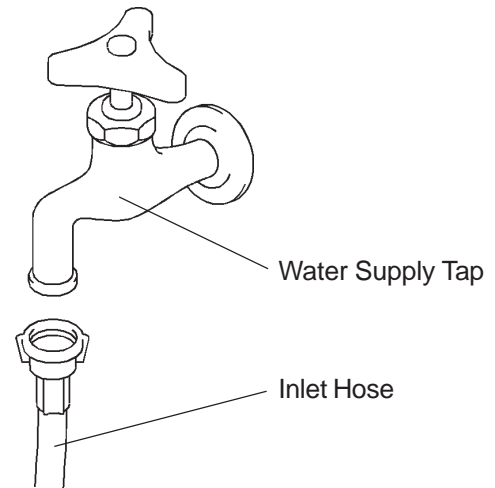

Fig. 5
- 2) Attach the other end of inlet hose to the water tap (Fig. 5), noting washer is correctly positioned before hand tightening as above. It is a wise precaution to have a stop valve within easy reach.
- 2) Attach the other end of inlet hose to the water tap (Fig. 5), noting washer is correctly positioned before hand tightening as above.